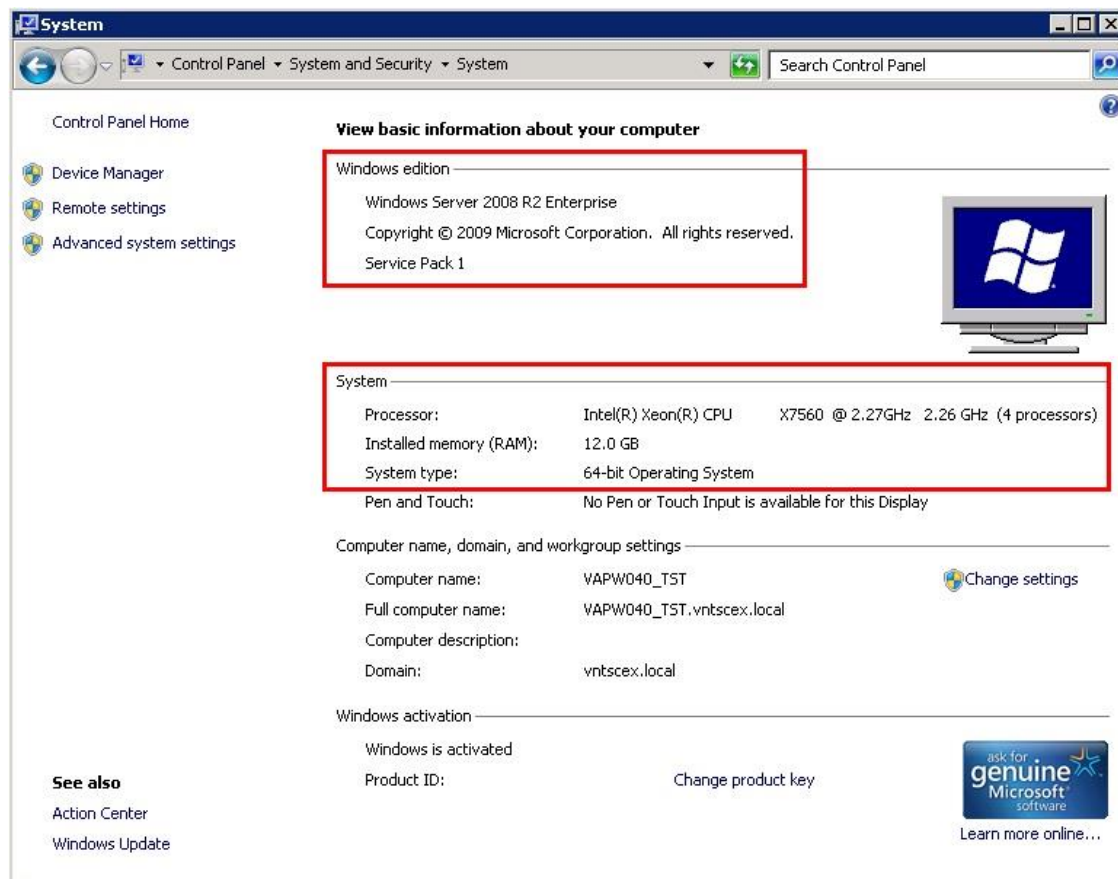

Figure 2-2 System Properties – Windows 7
- Navigate to *Start* menu, *Control Panel*, *System and Security*, *System*. It displays the operating system version, processor, installed memory (RAM), and system type information (Figure 2-2).